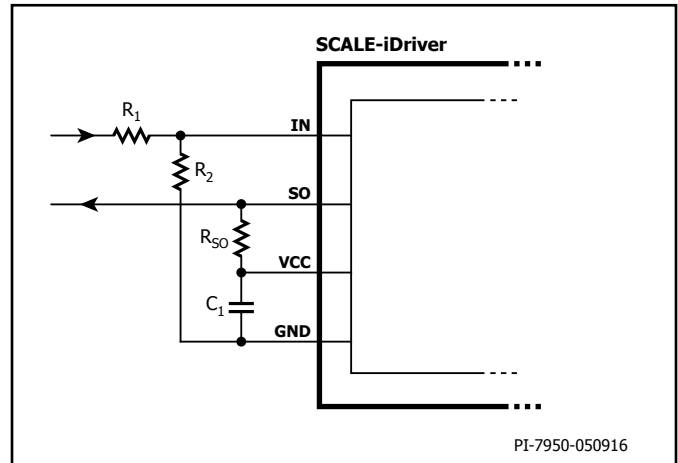

Figure 5. Increased Threshold Voltages V_{IN+LT} and V_{IN+HT} For $R_1 = 3.3 \text{ k}\Omega$ and $R_2 = 1 \text{ k}\Omega$ the IN Logic Level is 15 V.
The input (IN) and output (SO) logic is designed to work directly with micro-controllers using 5 V CMOS logic. If the physical distance between the controller and the SCALE-iDriver is large or if a different logic level is required the resistive divider in Figure 5, or Schmitt-trigger ICs (Figures 13 and 14) can be used. Both solutions adjust the logic level as necessary and will also improve the driver's noise immunity.